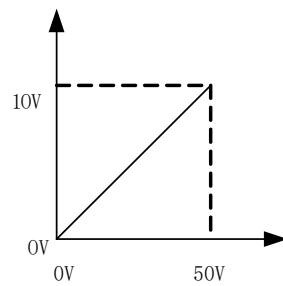

Figure 4-19 Corresponding relationship of given voltage in separate mode
3. The corresponding relationship of given voltage in separate mode is shown in Figure 4-19;